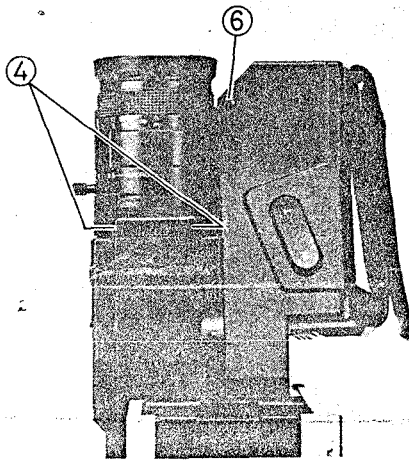
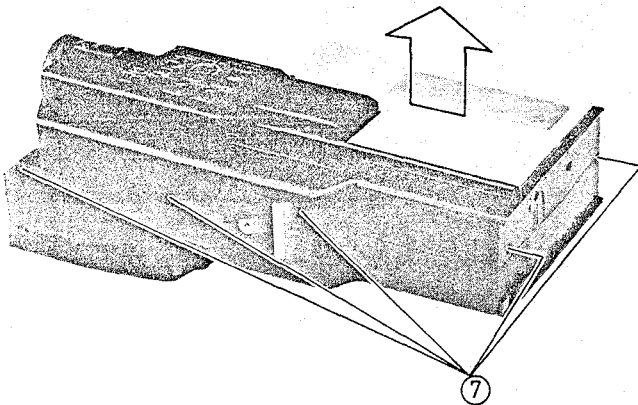

Fig. 2-5 Left Case Removal
Fig. 2-6 Left Case Removal
Left Case Removal (Fig. 2-5, 2-6)
4. Remove two (2) screws holding the top cover. (See Fig. 2-5)
6. Remove one (1) screw holding the left case.
7. Remove five (5) screws holding the left case. (See Fig. 2-6)
5. Remove the left case. (See Figs. 2-5, 2-6)